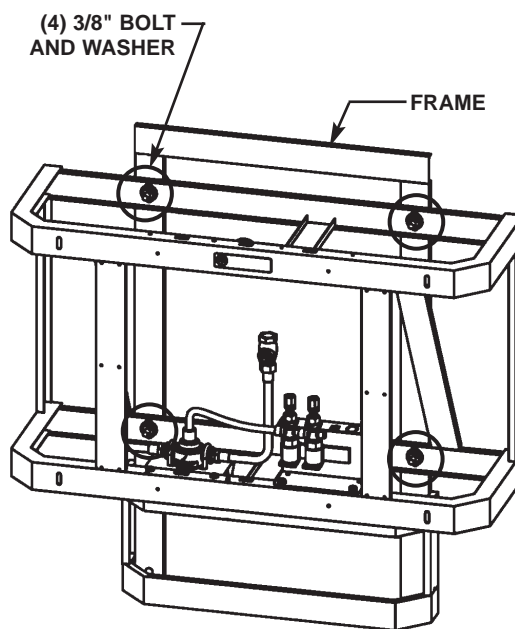

Figure 4
4. Once you have positioned the frame such that it is level and resting on the floor, and flat against the wall or shimmed, use four 3/8" bolts and washers to mount the frame to the wall (see Figure 4).